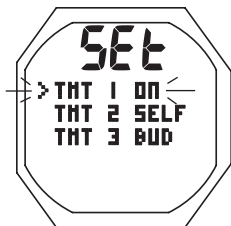

Fig. 56 - SET TMT MENU
**SET TMT MENU**, information includes (Fig. 56):